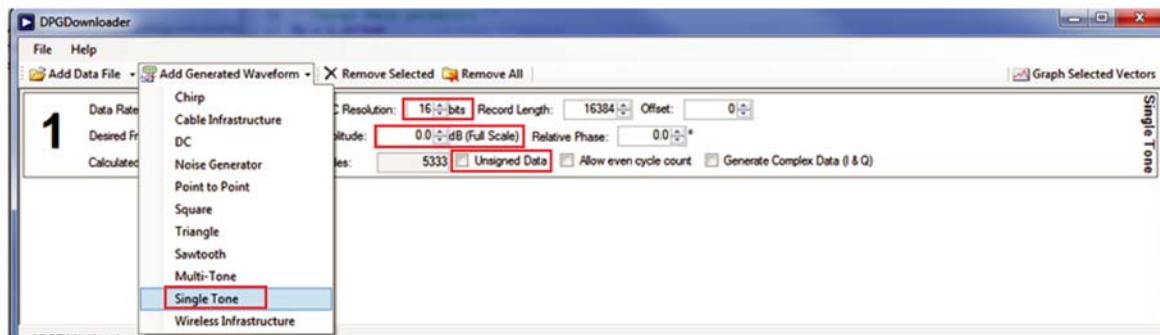

Figure 10. Choose Single Tone as the Vector Type
5. Select **Single Tone** from **Add Generated Waveform**, as shown in Figure 10. A single tone panel is added to the vector list.